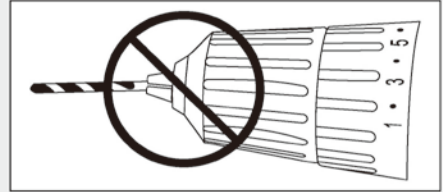

Fig.11
**⚠ WARNING:** Do not insert the drill bit into the chuck and tighten as shown in Fig. 11. The drill bit **MUST** be properly inserted with all three of the chuck jaws holding the bit centred in the chuck. Failure to properly insert drill bit could cause the drill bit to be thrown from the chuck, resulting in possible serious injury or damage to the chuck.